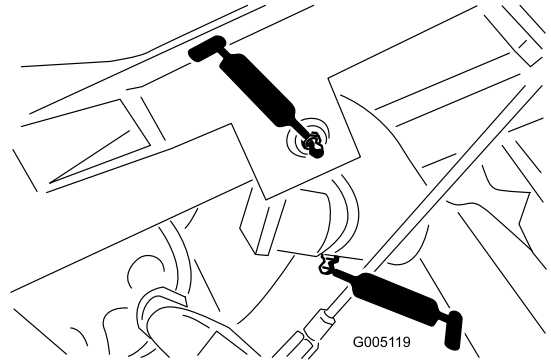

Figure 41
- Lift arm pivot (3) and pivot hinge (3) (Figure 41)